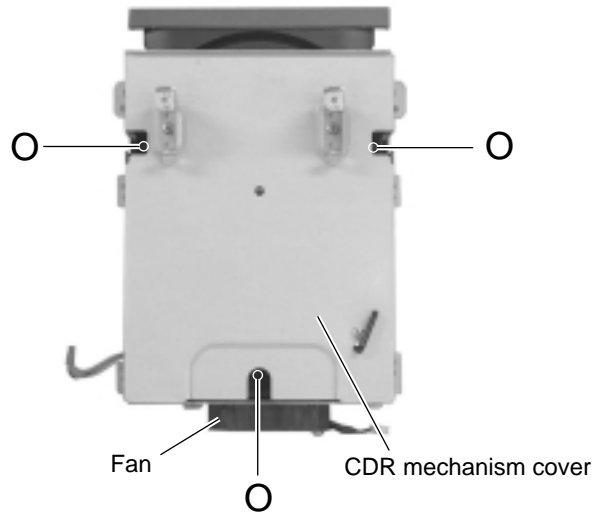

Fig.25
4. Move the CDR mechanism assembly in the direction of the arrow, inside of the CDR mechanism cover, to disengage it from the three joint bosses marked **j**. Then pull out the CDR mechanism assembly toward the front (See Fig. 25 to 27).